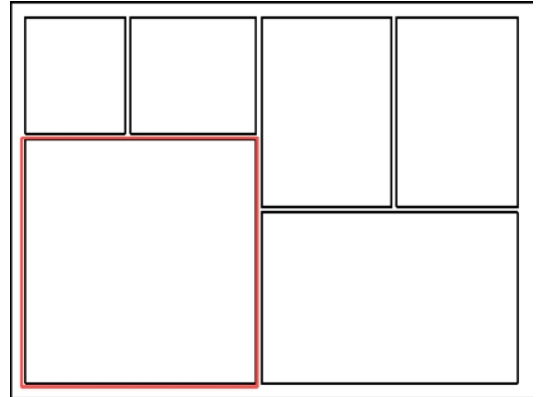

Figure 3.98
7. Using Figure 3.98 as a reference, add ceilings to the rest of the enclosed spaces.